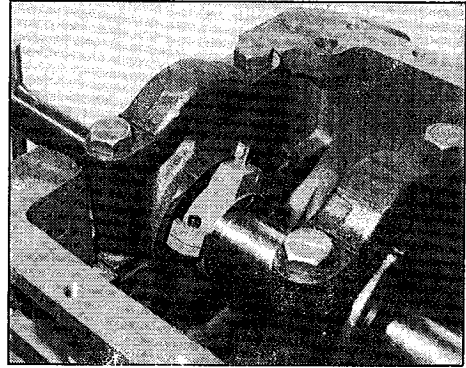

FIG. 4 CUTTER HOLDER INSTALLED
6. Install appropriate cutter holder and adjust the cutter to cut the full thrust bearing surface. The cutter should be inserted so it cuts when the boring bar is turned in a clockwise rotation. (Note: Left-hand and right-hand cutters). ( See Fig. 4.)